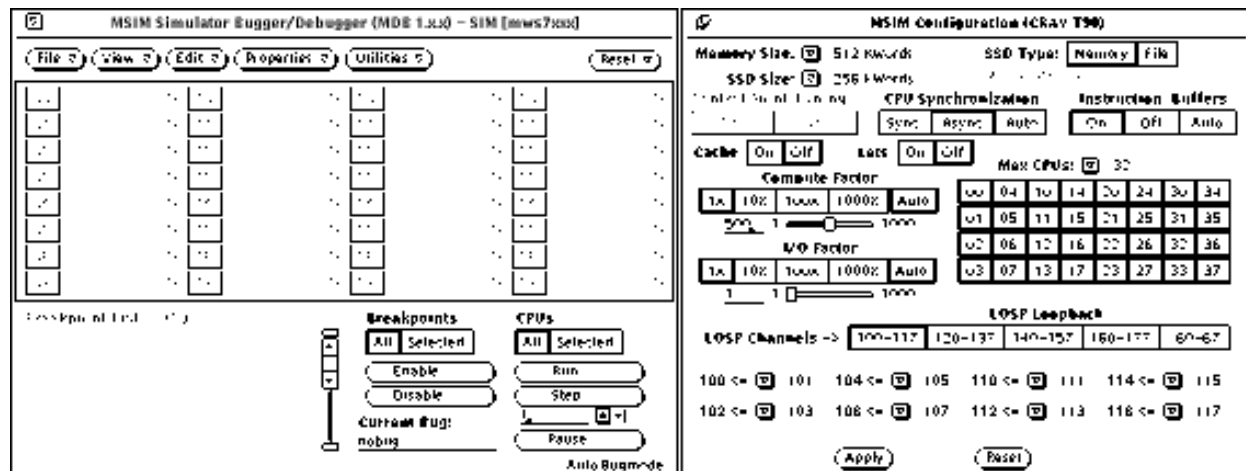

Figure 4. MSIM Simulator Bigger/Debugger and Configuration Windows
- Enter **b** from the classroom simulator menu to start the MSIM bugger/debugger (Figure 4, page 9).
- Start MDB with the simulator and debugger to display the windows shown in Figure 4.